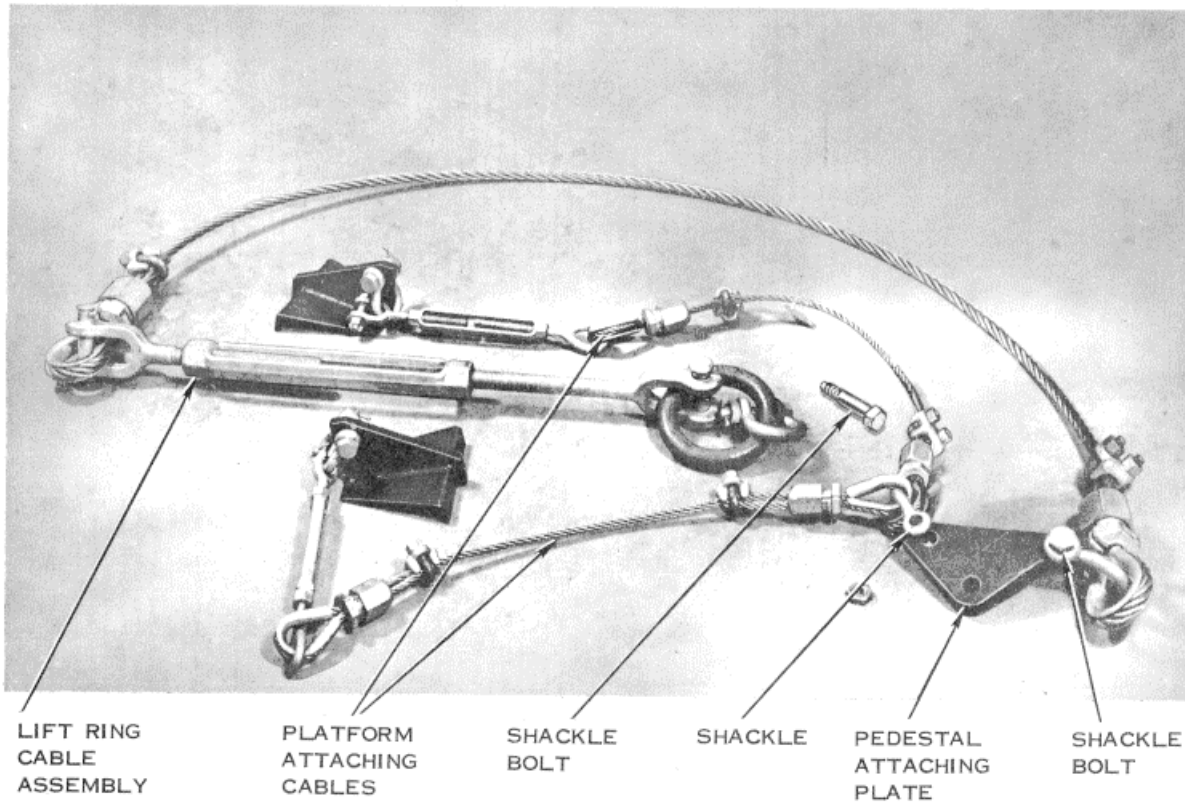
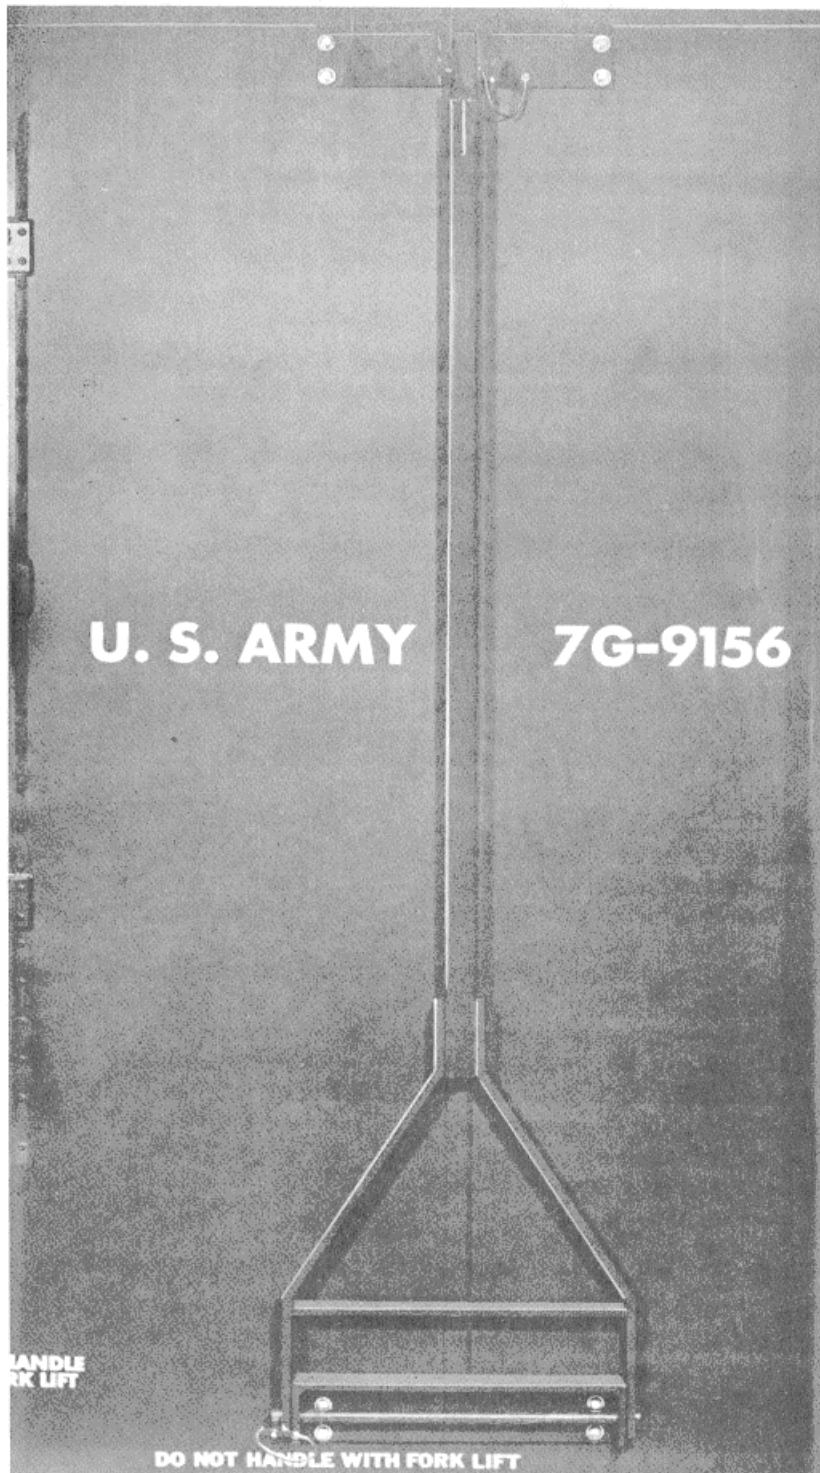

Figure 5-11. Antenna carrier lifting cable assembly
Figure 5-13. Antenna carrier lifting yoke storage.
c. Obtain the antenna carrier lifting cable assembly and the two special bolts from the applicable transit case. Assemble the lifting cable illustrated in figures 5-11 and 5-12 as follows:
(1) Assemble the lift ring cable assembly to the pedestal attaching plate using the shackle bolt.
(2) Assemble the platform attaching cables to the shackle.
(3) Attach the shackle bolt through the pedestal attaching plate.
d. Obtain the antenna carrier lifting yoke from storage on the rear exterior wall of the shelter (fig. 5-13)
- (1) Only part of the cable assembly required for airlifting without wheels is used. Remove the two cables that attach to the platform wedge brackets and substitute with cables that are designed for attachment to the platform skid rings.
- (2) Attach the cable assembly as shown in figure 5-13.
- (3) Fasten the platform attaching cables to the corner skid rings (wheels on lift points).
- (4) Raise and move the antenna carrier.